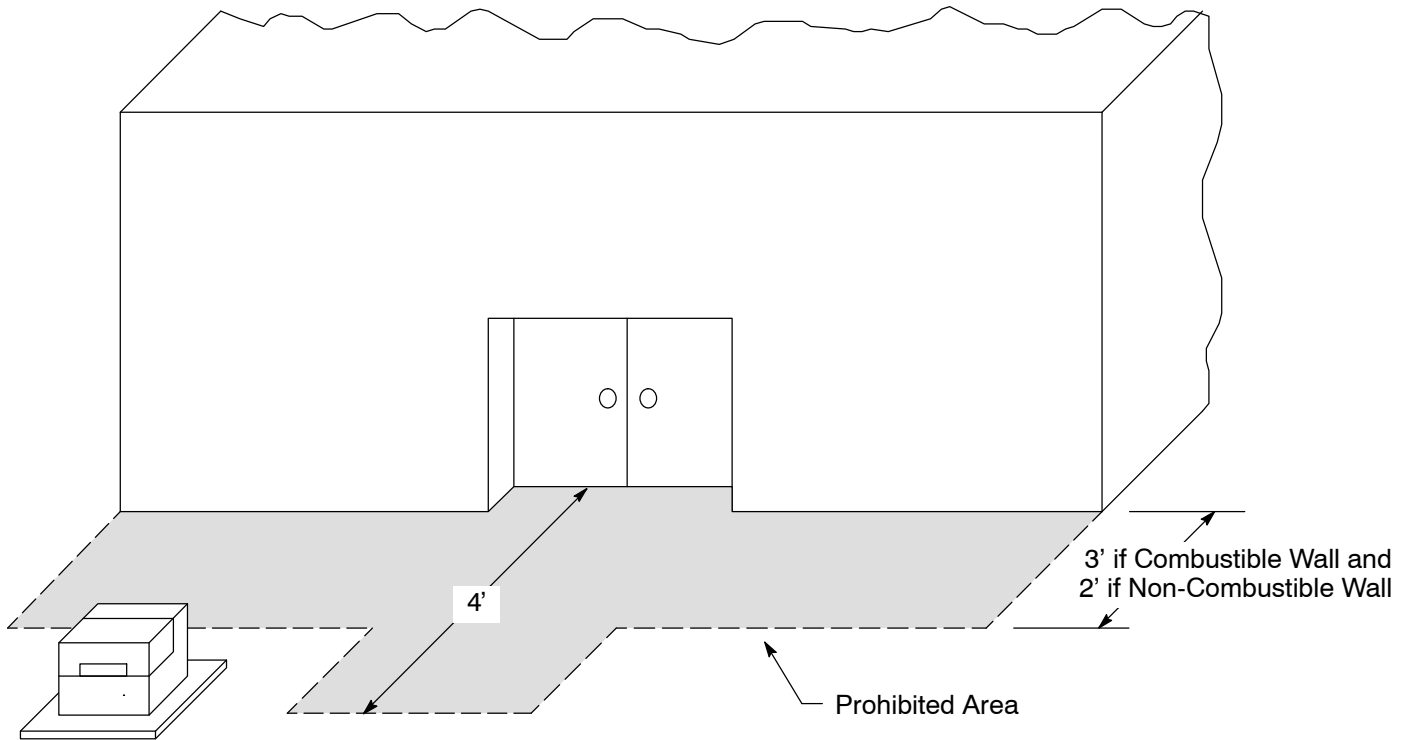

Figure 1
- A. Clearances from building surfaces (see Figure 1): Oil filled pad-mount equipment shall have the following clearances (based on *G.O. 128, Rule 34.3 [D]*):
- B. Doorway clearance (see Figure 1): Pad-mounted equipment shall not be placed where it impedes the flow of traffic through a doorway. In general, 4 feet of doorway clearance is sufficient (based on the Uniform Building Code).